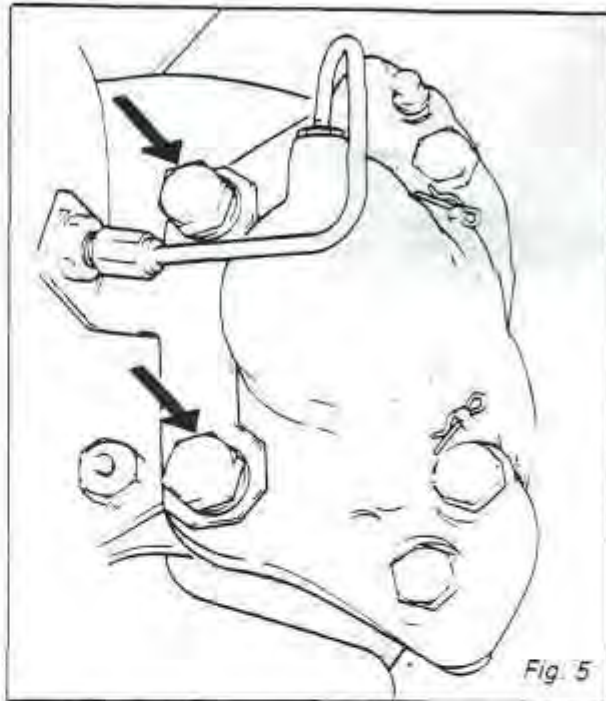

Fig. 5
3. Remove two bolts securing the disc caliper assembly to the hub carrier and remove caliper. (Fig. 5)